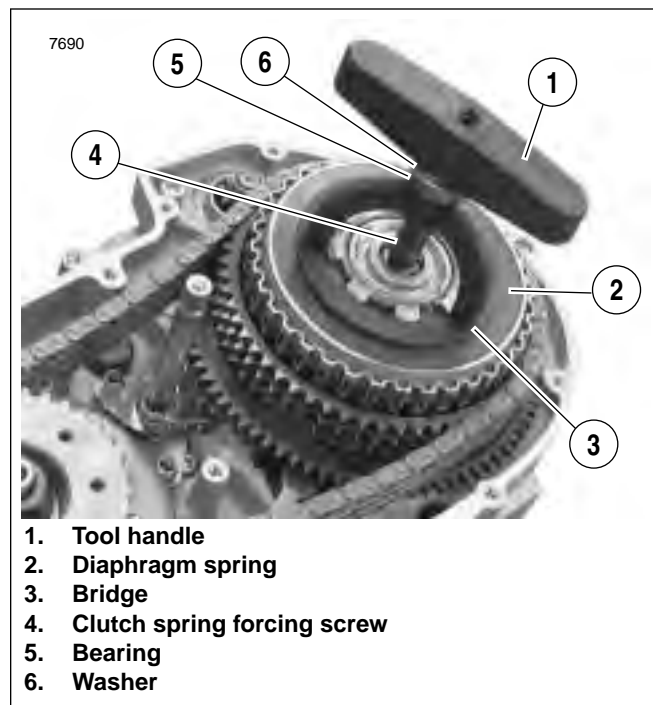

Figure 6-12. Compressing Clutch Diagram Spring
4. See Figure 6-12. Attach tools to compress clutch diaphragm spring.
- a. Thread the CLUTCH SPRING FORCING SCREW (4)(Part No. HD-38515-91) onto the clutch adjusting screw.
- b. Place the bridge (3) of SPRING COMPRESSING TOOL (Part No. HD-38515-A) against diaphragm spring (2).
- c. Install bearing (5) and washer (6).
- d. Thread the tool handle (1) onto end of forcing screw (4).